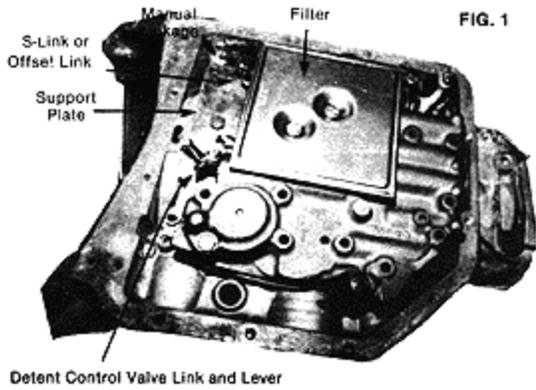

Figure 1
STEP 1 Some Turbo 350 transmissions do not have drain plugs. You may want to install a TCI[®] 805800 Drain Plug Kit before you reinstall your transmission pan. Drain the oil by removing the back oil pan bolts and work towards the front slowly. (Note: Some vehicles will require removal of the crossmember to remove the pan. Make sure you support the back of the transmission so you don't damage the distributor.) Do not remove the front two (2) pan bolts yet. If the pan sticks to the gasket, insert a screwdriver between the pan and case and pry the pan down slightly to break it loose. Allow the fluid to drain. Now remove the two (2) front bolts slowly. This will lower the pan to allow the rest of the fluid to drain. Lower the pan and set aside. Put the pan bolts in your tray.
STEP 2 Use a screwdriver to remove two (2) screws and remove the oil filter and filter gasket. Put them in the oil pan. **(See Figure 1)**
STEP 3 Observe the location of the following: (See Figure 1) Manual linkage, detent spring and roller, s-link or offset link, detent control valve link and lever, and support plate.
STEP 5 Remove support plate bolts and support plate. (See Figure 1) Remove separator plate, gasket and four (4) check balls.